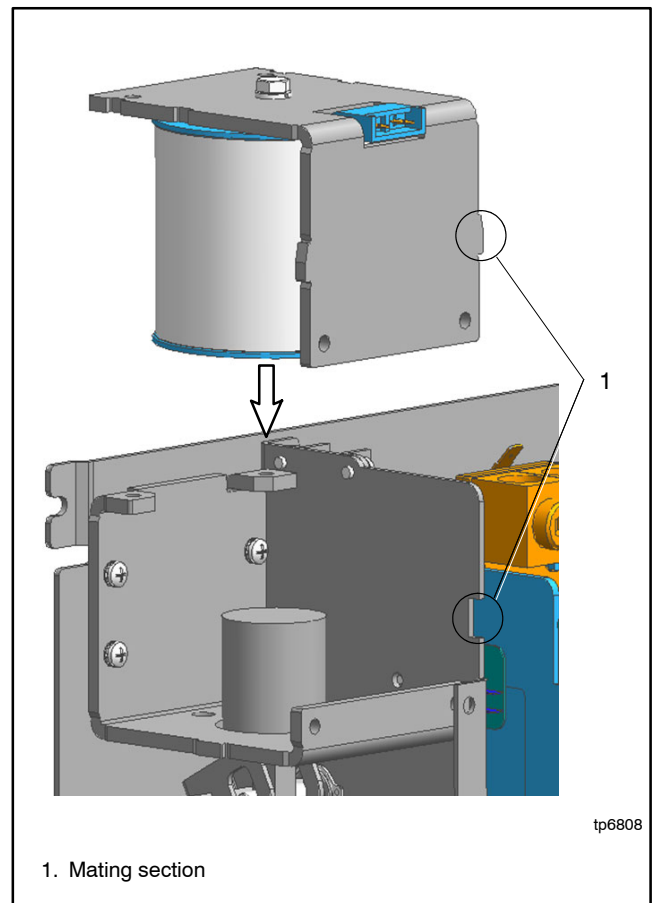

Figure 7-38 Install Coil Assembly
3. Place the coil assembly made in step 2 into the body. Be sure that the coil assembly fits perfectly into the body at the mating section. See Figure 7-38.